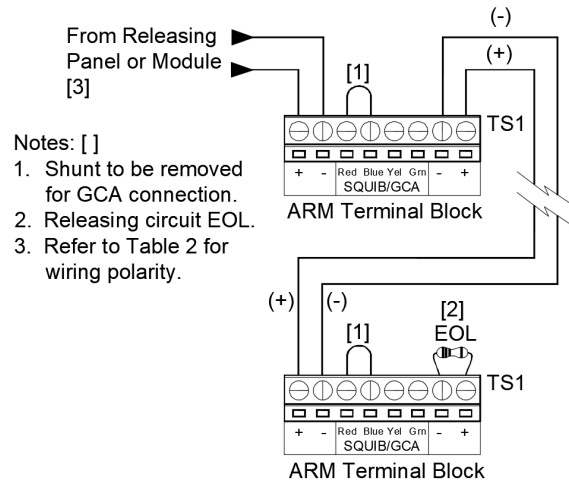
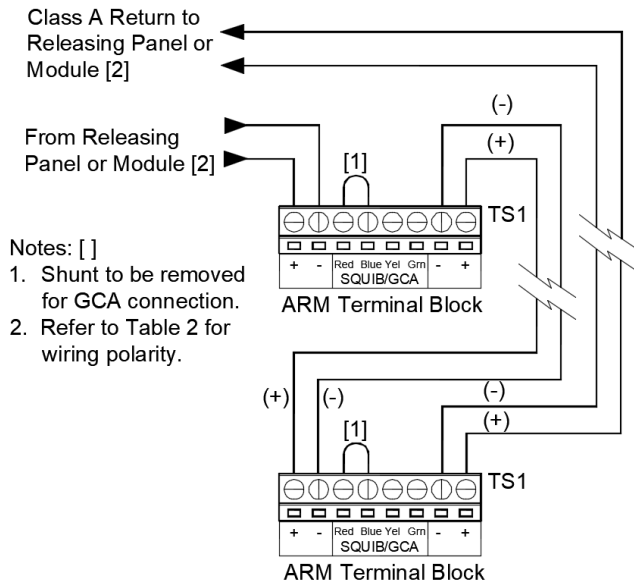

Figure 2 - Class B Wiring
Figure 3 - Class A Wiring
6. With the ARM circuit board facing the interior of the electrical box, connect the releasing circuit wiring to the ARM module(s), as shown in Figure 2 or 3. If the ARM LED is illuminated and the panel is not in the Release State, verify correct wiring polarity is maintained. Correct any wiring problems before proceeding.
- Remove the end-of-line resistor from the last ARM on a Class-B circuit (See Figure 2) or disconnect the Class-A return wire leg on the last ARM (See Figure 3) and verify that the releasing panel receives a Trouble signal.
- Remove the GCA shunt from the first ARM and connect an Output Analyzer (P/N 10-2983) to the ARM Red/Blue terminals (See Figure 2 or 3).